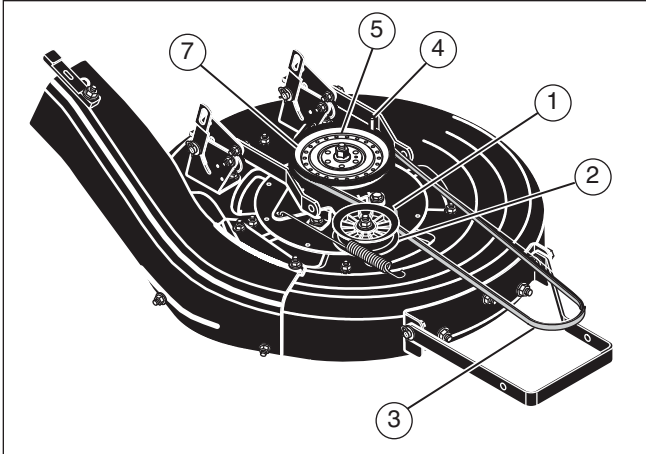

Figure 25
9. Check the operation of the blade brake. Rotate the mandrel pulley with your hand. Make sure the brake pad is pressed tightly against the mandrel pulley (see **Figure 25**).
11. Check the pad for the blade brake (7) (see **Figure 25**). If the pad is excessively worn or damaged, replace the brake pad assembly. Correct replacement parts and assistance are available from an authorized service center.